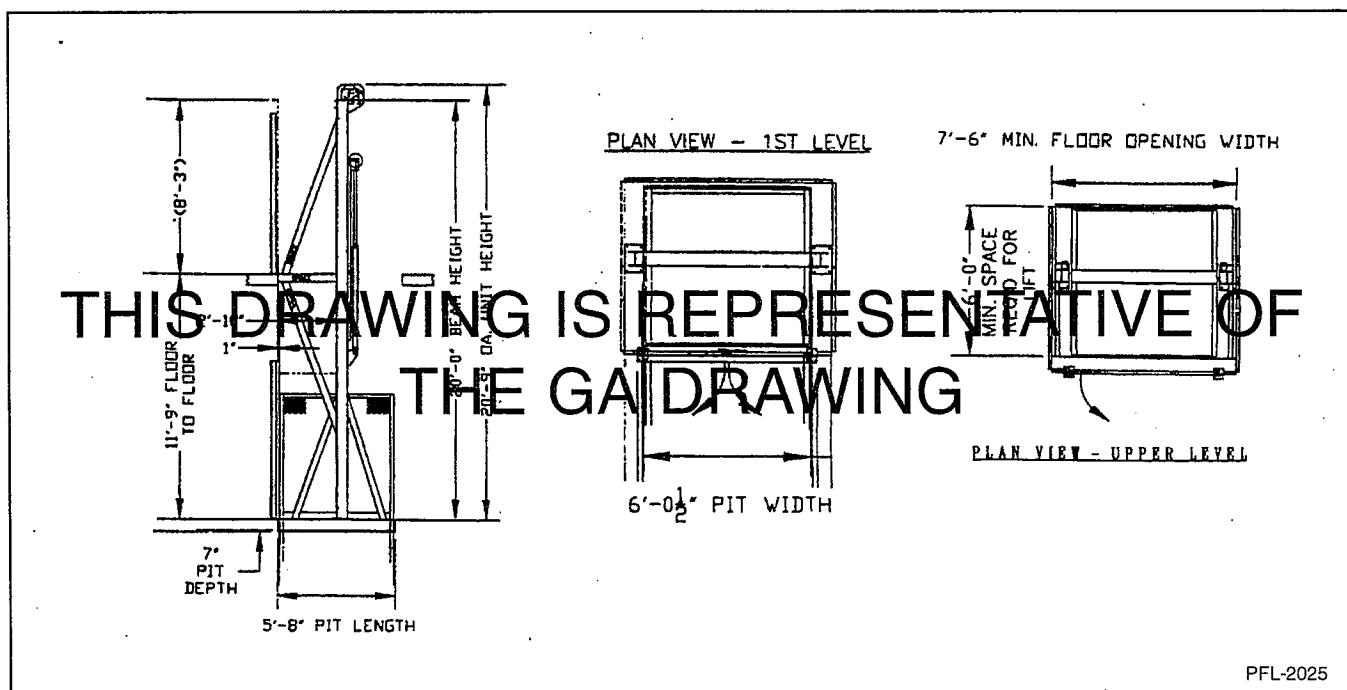

Figure 4
2. The shipping packet found inside the parts crate contains a copy of the general arrangement drawing. See Figure 4.
The model and dimensions shown in Figure 4 are not applicable to your unit. This drawing is for illustrative purposes only.